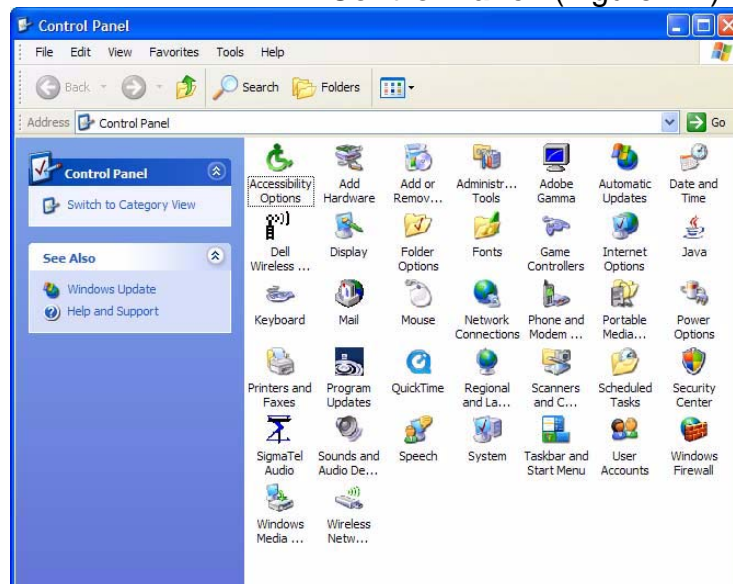

Figure 7-1 Control Panel
1. Click **Start**, point to **Settings**, and then click **Control Panel**. (Figure 7-1).